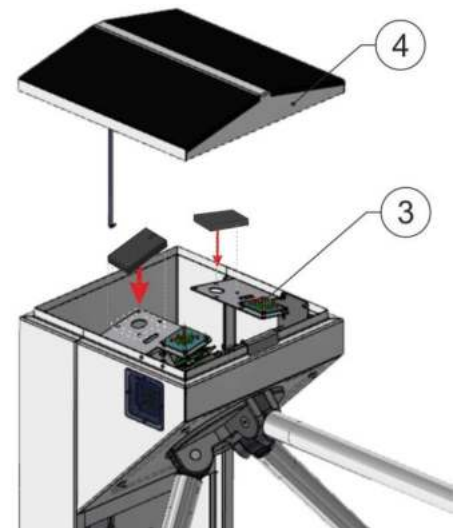

Fig. 20 – Installation of card reader into the tripod turnstile
- In the turnstiles CENTURION, TWIX, SKULL and BASTION card readers are installed on special and height adjustable bracket, which is located under upper lid 4 next to LED display 3 (Fig. 20).